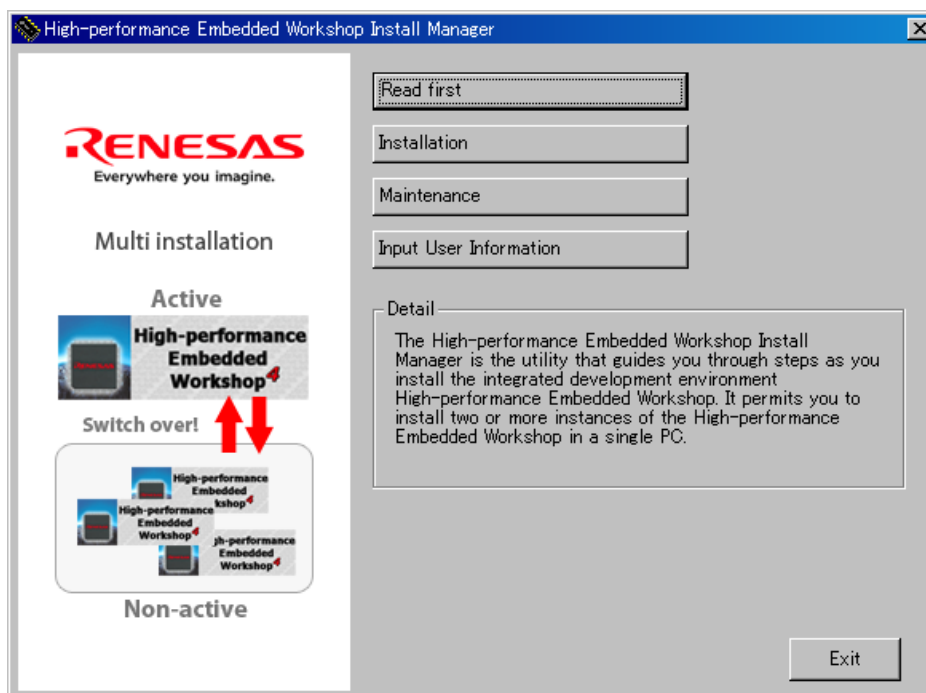

Figure 3.1.4 HEW Installation Procedure (5)
(5) Continue to install following the instructions in the installation window. When entire installation is finished, the dialog shown in Figure 3.1.4 is displayed, click "Exit".